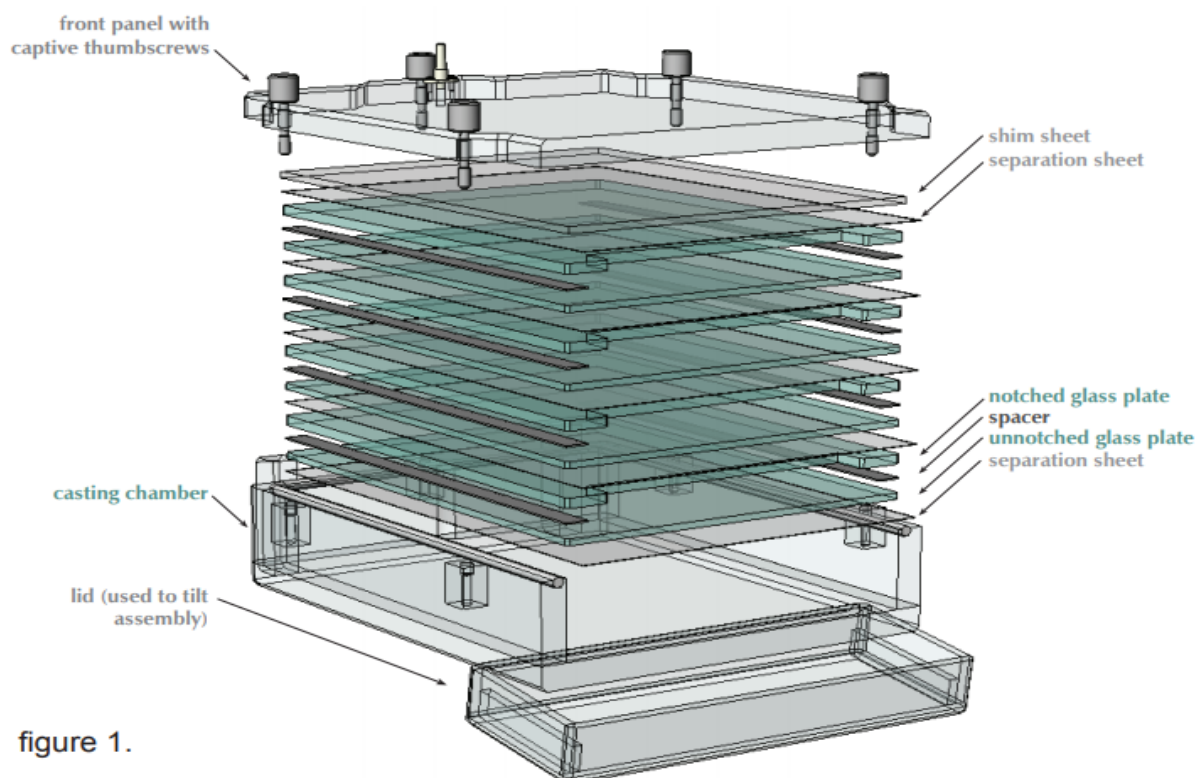

figure 1.
2. Start by stacking one separation sheet, followed by unnotched glass plate, spacer set, then notched glass plate. Repeat this sequence until all 4 sets (or 10 sets) are neatly stacked into the casting chamber. Place one additional separation sheet on the last glass plate. See figure 1.
1. Remove lid and carefully remove one comb to ensure polymerization is complete. Return caster to horizontal angle position as shown in figure 1. Disassemble the unit by unscrewing thumbscrews. Release each gel sandwich by pulling the polycarbonate separation sheet. If you are planning to store some of the gels for later use, leave the comb in place, rinse excess acrylamide from glass plates, and wrap in Saran wrap or store in Zip-Lock bags in the refrigerator.